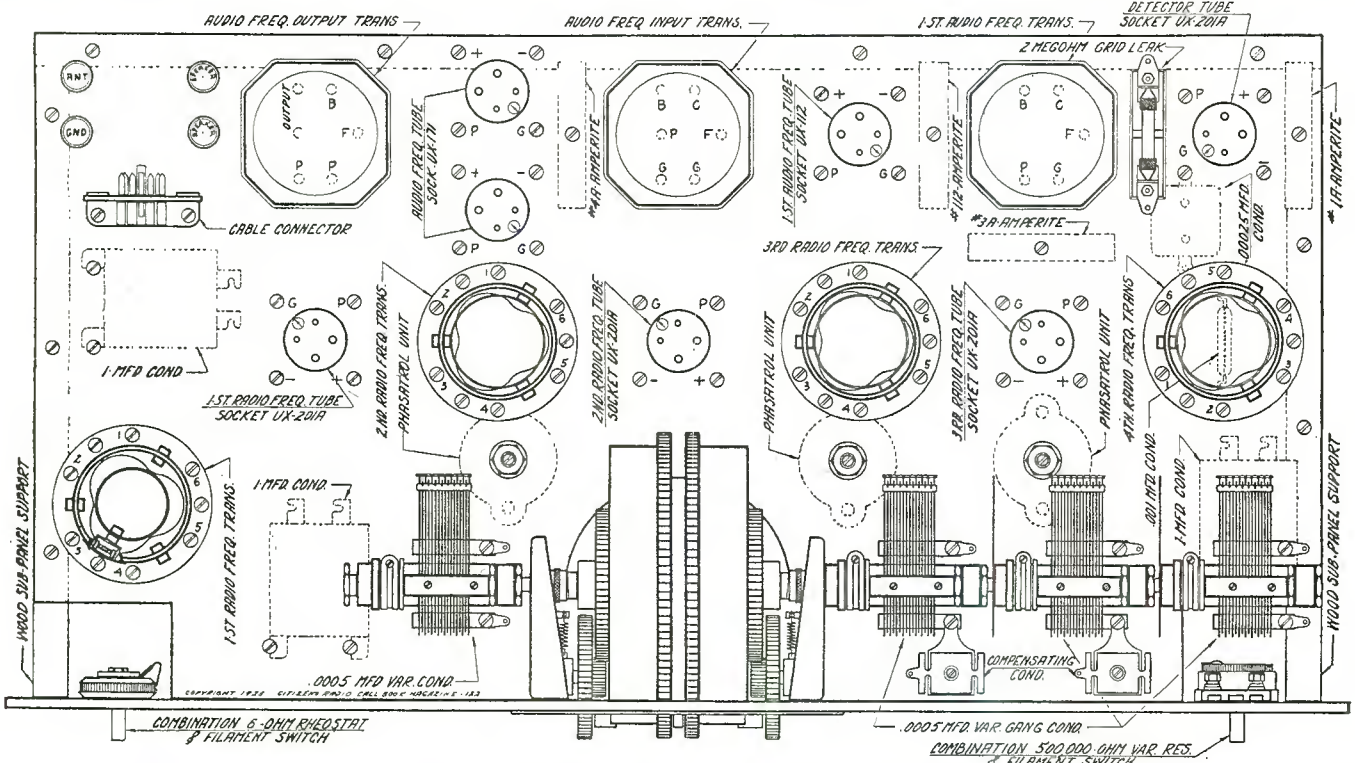
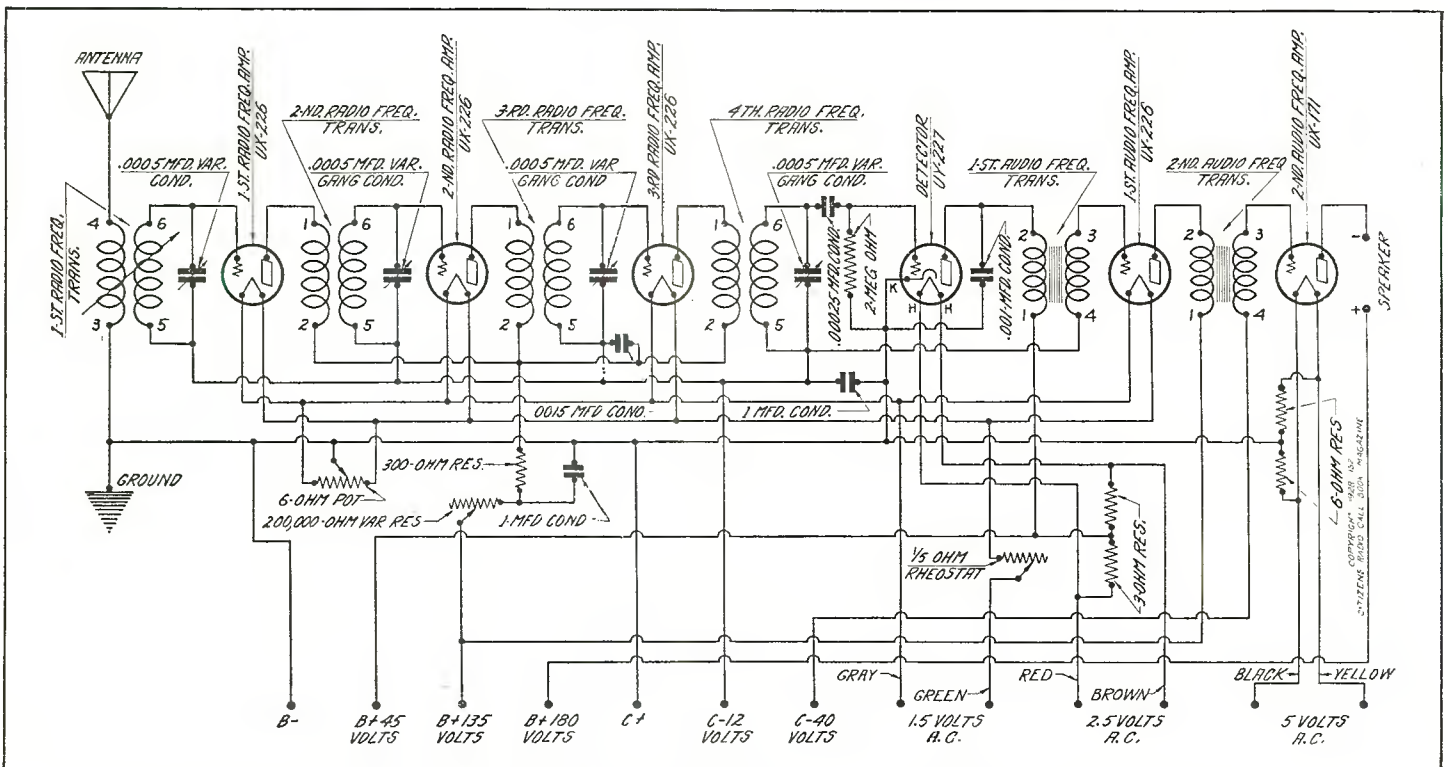
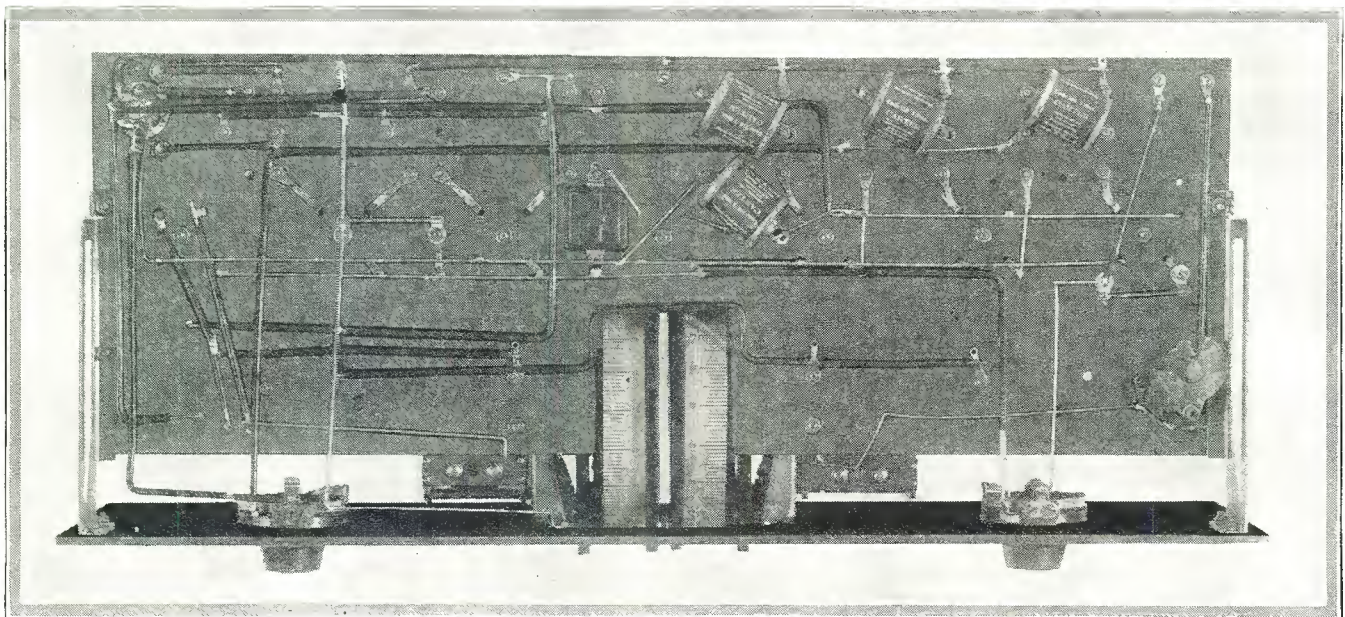

Figure 3. This illustration represents the actual placement of parts on the sub-panel and should be followed carefully as regards position of the various units
Figure 1. Schematic circuit of the Aerodyne Six arranged for electric operation is shown in the above drawing
Figure 4. Bottom view of the completed Amplimax showing the wiring, fixed condensers and the .00005 mfd variable condenser, the latter at the extreme right
man input and output audio transformers, two 171's being used for push-pull in the last stage, the first audio using a 112. The output transformer, of course, has a winding from which the speaker is operated. Audio volume control is secured by means of the 500,000 ohm Tonatrol placed across the grid and C minus terminals of the first audio transformer. Since the Phasatrol units are not considered in the light of controls which are used while tuning, these have been placed on the sub-panel, where they may be adjusted and then left undisturbed. Their location is shown in the sub-panel layout illustrated in Figure 3. Inspection of Figure 3 will also show the location of the two compensating condensers which are used as a means of trimming the three stages which are ganged together on a common shaft. This balancing is necessary on account of the slight difference in wiring, but after the stages are once balanced it is not necessary to change those capacities.
Builders, who are interested in making this receiver, will find it is a very stable one and to possess good quality reproduction. All of the necessary parts should be placed on the sub-panel in accordance with the drawing shown in Figure 3. It will be observed that ample space is allowed between inductances and transformers, while the condensers are lined up in such a manner as to reduce as much as possible the length of leads from the inductances to the condensers. Wiring of the receiver may
Either solid or flexible wire may be used for hooking up the receiver, depending very largely upon the taste of the builder. While the laboratory model was assembled with flexible wire, it perhaps does not give as clean a looking job as if the work were to be undertaken with solid wire. However, one of the virtues of flexible wire lies in the fact that connections may be considerably shortened from point to point and in some cases this may be desirable. As will be observed by referring to Figure 4, which is the photographic view of the under side of the set, all bypass condensers, the Amperites and the Phasatrols are located on the bottom side of the sub-panel. A cutout is made on the sub-panel in order to allow the Tyrman dials to be located without touching the sub-panel. The cable plug is located on top of the sub-panel and may be seen by referring to the photograph in Figure 1, or the sub-panel layout illustration in Figure 3. The latter diagram also shows the location of the grid condenser and grid leak, the leak being above panel, while the condenser is below panel and attached directly to the grid terminal of the detector socket. Suitable binding posts are provided for antenna and ground con-
Figure 4. Photographic view of the bottom of the sub-panel. On account of flexible wire being used in this receiver, it has been possible to make connections from point to point. If solid wire is used in hooking up your receiver, the appearance of the under side would be more symmetrical but not necessarily any more effective
By reference to the circuit diagram shown in Figure 1 it will be seen proper terminal voltage values are shown. No reference to the type of filament or plate supply unit is made. The reason for this is that individual set builders will probably have their own likes to be guided by in these items. The filament supply transformer should be one having windings giving 1.5, 2.5 and 5 volts. The unit supplying "B" voltage may be dry cell blocks or any high class type of "B" eliminator.
Figure 1. Rear view of the completed Amplimax Super on which extensive development work has been done in our engineering laboratories. In this photograph the tube shields are removed, to give the reader an idea of all the component parts
*Figure 1. At the left of the above photograph may be seen the Remler 710 radio frequency amplifier unit, while at the right are the Samson push-pull audio transformers and output impedance*
Since the two stages of radio frequency amplification and detector are contained within the Remler 710 amplifier unit, the schematic circuit of this section of the set has not been given in this particular article, although if the reader is interested he may refer to Figure 1 on page 66, where a schematic is given covering this type of amplifier. As will be observed by examination of the schematic on page 66, the amplifier contains three radio frequency transformers, each with a variable primary actuated by the same mechanism which turns the three gang condenser. Each of the condensers in the three gang unit have an individual compensating section for balancing the stages at resonance. In the grid circuit of the first radio frequency tube is a 500 ohm fixed resistor, which may be shorted out when not desired and which serves to stabilize that particular stage, while in the second radio frequency